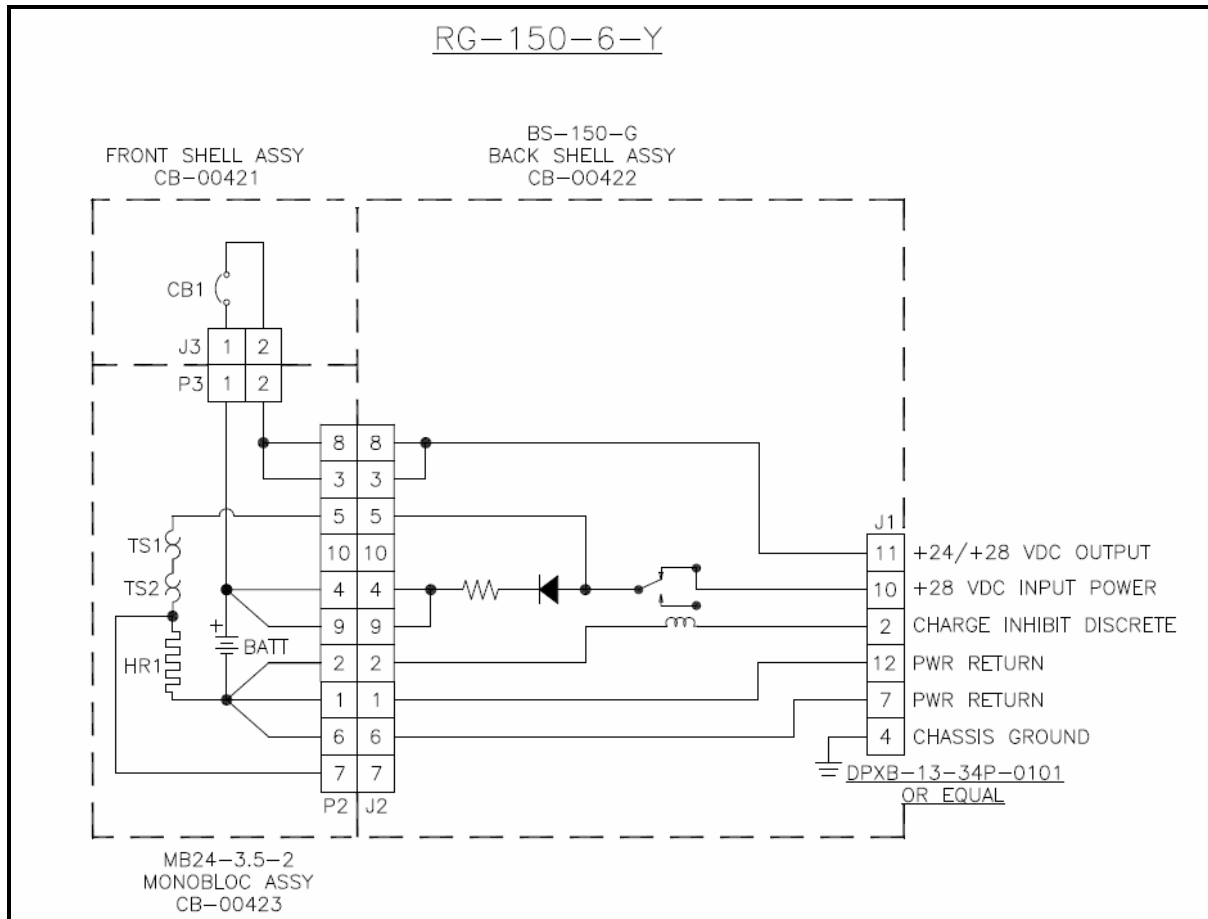

Figure 204. Schematic Diagram for RG-150-6-Y Battery
- D. The schematic diagram for the RG-150-6-Y battery is shown in Figure 204.